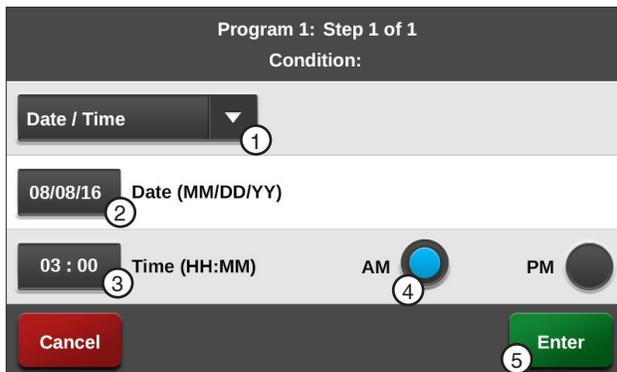

Figure 124-2 1. Date/Time Command 4. AM
- a) Select the **Choose Condition** drop-down menu and choose **Date/Time**. Refer to Figure 124-2.